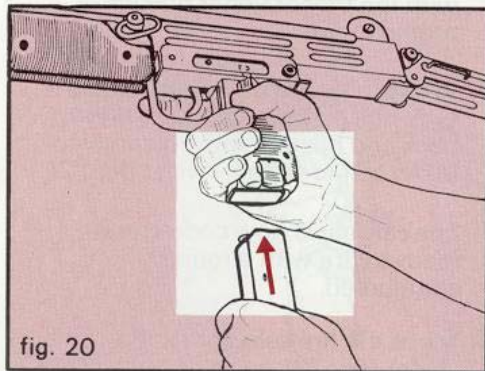

fig. 20
4. Tilt the carbine to the right, and insert the magazine into the pistol grip opening with your left hand. Push until magazine catch snaps into place. (fig. 20).